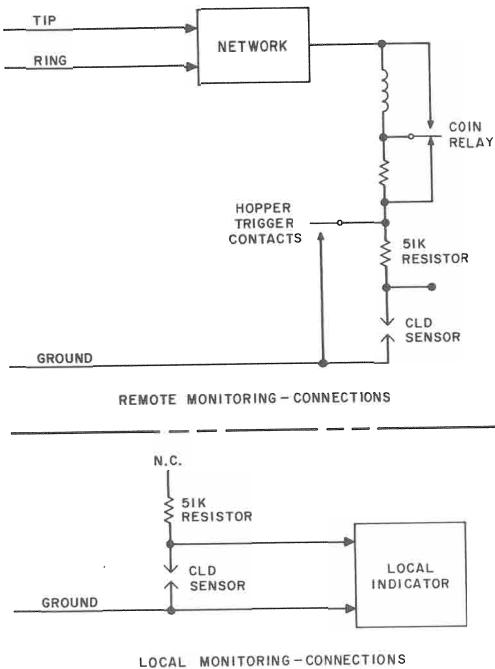

Fig. 10—Coin Level Detector—Connections
4.04 Refer to Fig. 10 for connection diagram.